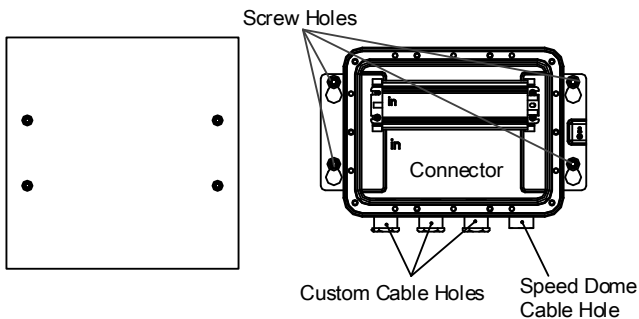

Figure 2-12 Install the Gang Box Type I
- 1) Drill 4 $\phi 9$ screw holes for expansion screws as shown in Figure 2-12.